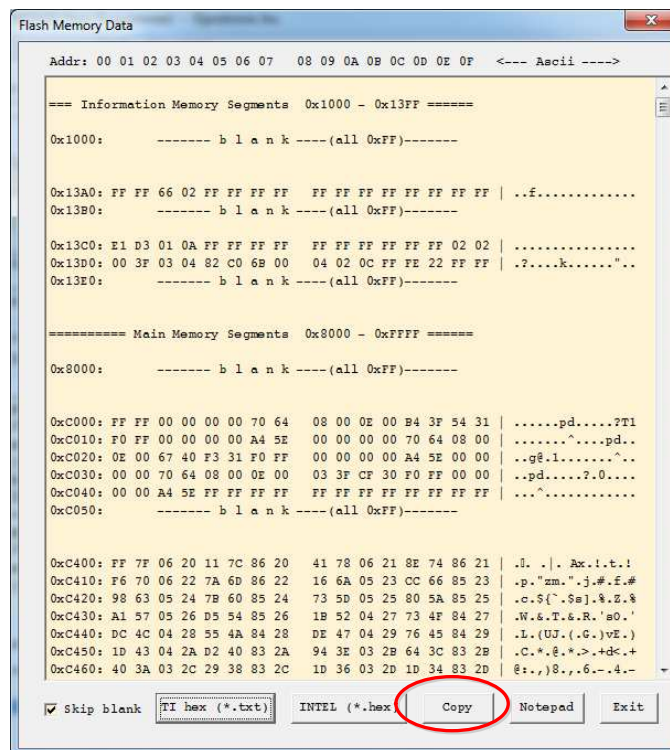

Figure 16. Copy and Save Original Firmware
- Click the "READ/COPY" button to copy the original code and when *Flash Memory Data* window appears (see Figure 16), click the "Copy" button, paste the data to an open note pad application, and save it as a text file named "original.txt". The creation of this text file is to restore to the original in the case of errors.